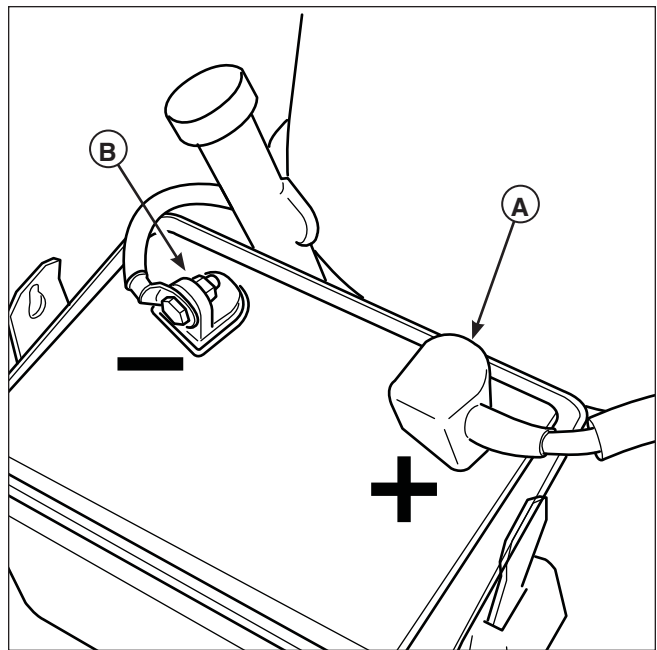

Figure 16. Battery Compartment
1. Disconnect the cables from the battery, negative cable first (B, Figure 16).
3. Reinstall the battery and reattach the battery cables, positive cable first (A).